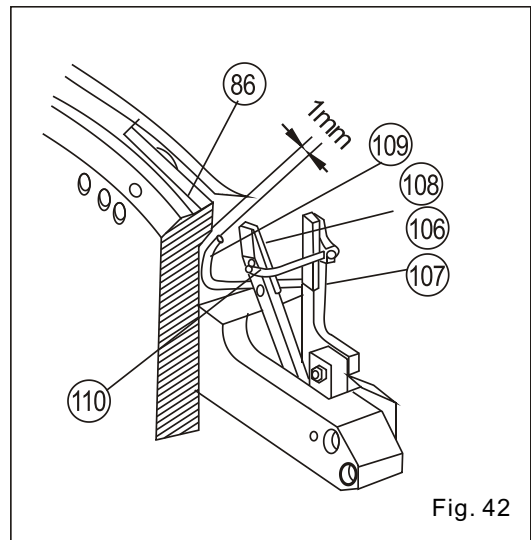
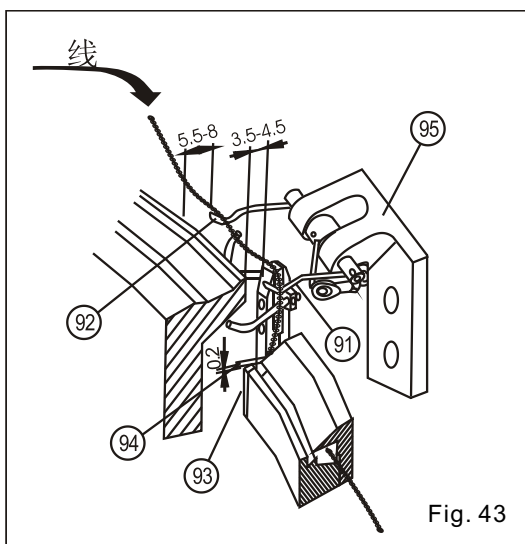
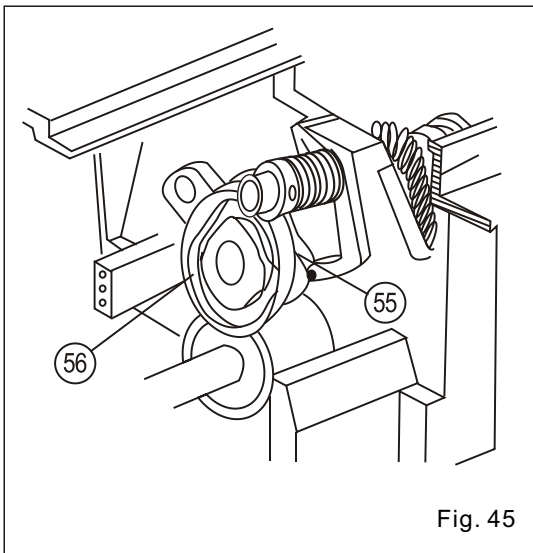

Fig. 42
Fig. 43
Fig. 45
The pressure of the spring on tension stands (No. 106 and 107 in Fig. 42) shall be greater than that on the lower thread feeding hook (No. 106 in Fig. 42).
(2) After thread tension device has been reset, fasten the two screws (No. 103 in Fig. 40 and No. 99 in Fig. 41). Keep a 0.2mm space between thread guide bar (No. 94 in Fig. 43) and the small piece on the fixed thread disc (No. 93 in Fig. 43). After thread disc has reset, don't lock first.
Adjust the thread tension cam (No. 56 in Fig. 45) in the upper shaft. The control rod shall be kept in the center of the reference hole of the needle. And meanwhile, the upper part of thread clamp shall be at the most outside fringe of the vertical line of thread carrying disc (No. 86 in Fig. 42).
Adjust the thread take-up hook (No. 109 in Fig. 42) to make it 4-5mm away from the front of the incline face of rotatory needle base, and 1mm away from the inner hole of the thread carrying disc, as indicated in Fig. 42.
(4) Reinstall the thread carrying cam. If in the first circle, the end of the upper thread hook reaches the center of the needle, and meanwhile, the thread tension device is closed again, and then the upper ring opens, that means the direction of thread tension cam (No. 56 in Fig. 45) is correct. The space of the opened thread tension device in this direction shall be 1.5mm. After the locking screw (No. 103 in Fig. 40) has been loosened, readjust the screw (No. 105 in Fig. 40) to achieve satisfactory position, as indicated in Fig. 40.
Thread guide block (No. 93 in Fig. 43) is on the top left, as indicated in Fig. 43. It is mounted on the fixed thread disc. Stop the thread carrying disc (No. 86 in Fig. 42), make sure of correct position, and then fasten the clamp screw on the thread loading disc.